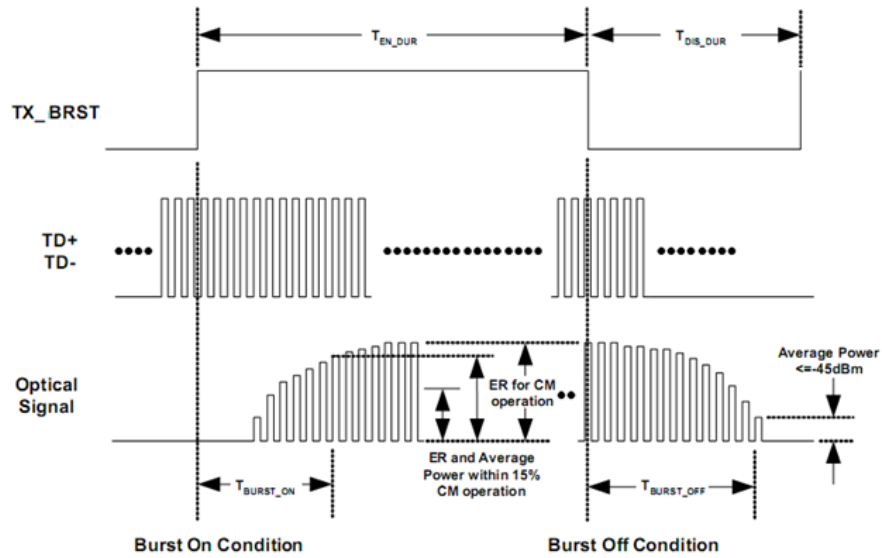

Figure 3, Timing Parameter Definition in Burst Mode Sequence
Transmitter Output Eye	Compliant with G.984.2 Figure 3
6. 16 bits data @1244Mbps, refer to figure3.